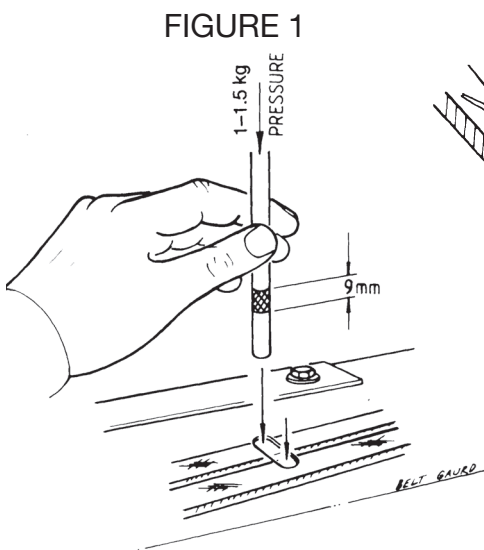
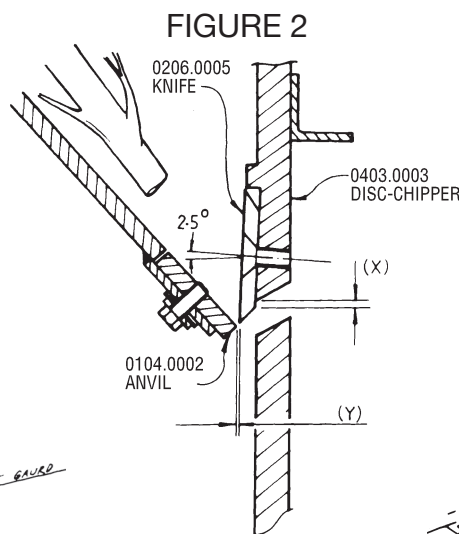

FIGURE 1
FIGURE 2
- 5) **SHREDDER HOPPER** (See Figure 1) As the engine ignition begins, the engine shaft operates freely until approximately 1400-1600 rpm at which speed the centrifugal clutch engages and begins driving the rotor. Proper rotor rpm is 2900 rpm with a plus or minus tolerance of 100 rpm. Four rows of hammers shred material until it reaches such size to allow it to pass through the grinding screen. The grinding screen retains the material within the grinding chamber for several seconds until the free-swinging hammers have rotated several times. The number of cuts by the hammers and retention time within the chamber varies with each organic material type.
- 6) **CHIPPER CHUTE** (See Figure 1) Branches are fed into the side hopper for chipping. One at a time if they are thicker than 50mm, several together if of small diameter. The throat opening is approximately 80 mm square. Some side shoots or side branches may have to be trimmed from the main stalk before chipping. Short stubs of branches may be pushed through the chipper section with the next branch. Never assume you know where the blade is, and try to push short branches in by hand.
- 10) Always stand clear of the discharge area when the shredder is running. (See Figure 1)
NOTE: The blade life is determined by the point where the bevel face meets the slot in the chipper disc. See Fig 2. Dim. (x) **WARNING:** Do not exceed the point as the blade may fail.
- xi) Close access flap and tighten screws item 12.
7. After the blade is sharpened, the gap Dim. (y) (Fig. 2) Between the blade and anvil (0104-0002) must be checked. This gap should be 1.0 mm to 1.2 mm at outside circumference of blade and 0.4 mm to 1.2 mm at inside circumference of blade.
- ii) Observe drawing No. 1& 2 and Fig. 2.
9. If it becomes necessary to disassemble the chipper for repairs, the chipping disc (6) (0403-0003) **must be installed in exactly its correct position on the shaft.** Refer Drawing 2.
10. The Belt tension will need to be checked regularly. Refer Fig. 1.